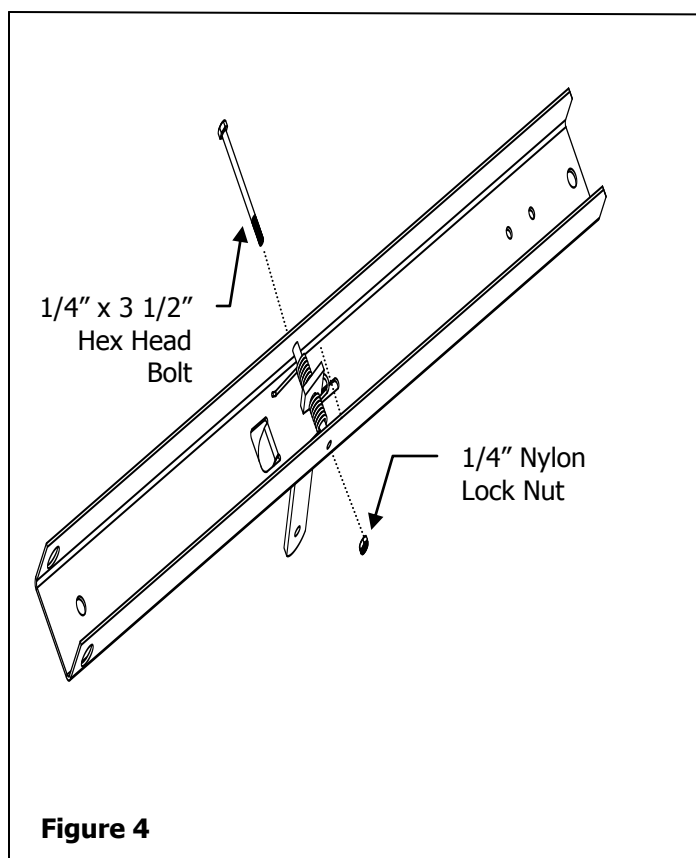

Figure 4
4. Slide 1/4" x 3-1/2" Hex Head Bolt through Spacer and secure with a 1/4" Nylon Lock Nut. See Figure 4.